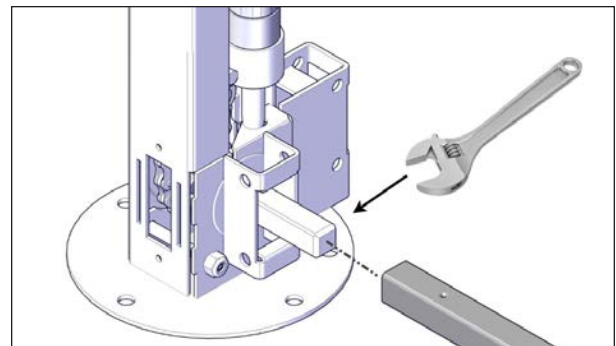

FIGURE 40: DRIVE SHAFT INSTALLATION
9. Hold the left-hand non-motor-side jack assembly upright and in line with the left drive shaft. Use a 3/4" adjustable wrench to carefully rotate the square shaft of the jack to align with the drive shaft Figure 40.